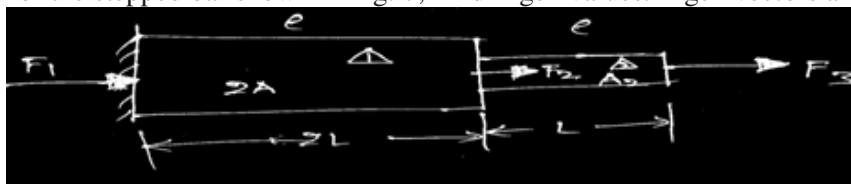

Fig: 7
8. For the stepped bar shown in Fig: 7, Find Eigen values. Eigen vectors and node shapes?